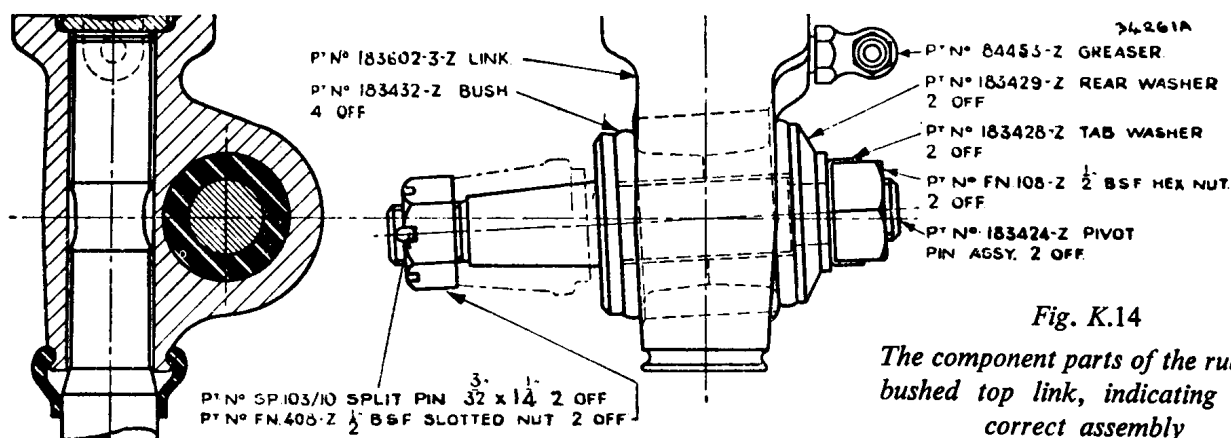

Fig. K.14
- (3) Release the tie-rod fork ends from the outer ends of the lower suspension arms and replace the existing washer with one to Part No. 183470. Refit the fork end to the suspension arm.
- (4) Assemble the rubber bushes and new pivot pins to the top links as shown in Fig. K.14, but leave the pivot pin nut retaining the rubbers slightly loose so that the rubbers can still turn on the pin.
- (5) Assemble the top links to the swivel pins by screwing them fully home and then screwing them back approximately one complete turn so that the lug is towards the centre of the car.
- (6) Insert the tapered end of the pivot pin into the arm of the damper and tighten it up firmly onto the taper with the retaining nut. (It may be necessary to slacken the lower arm fixing bolts to